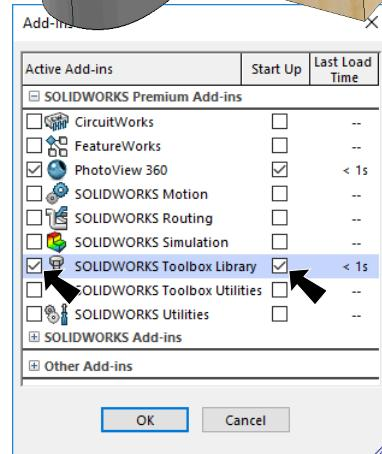

Fig. 1
- Step 3. In the dialog box find **SOLIDWORKS Toolbox Library** and place a check in the check box under **Active Add-Ins** and **Start-Up**. Click OK, Fig. 1.